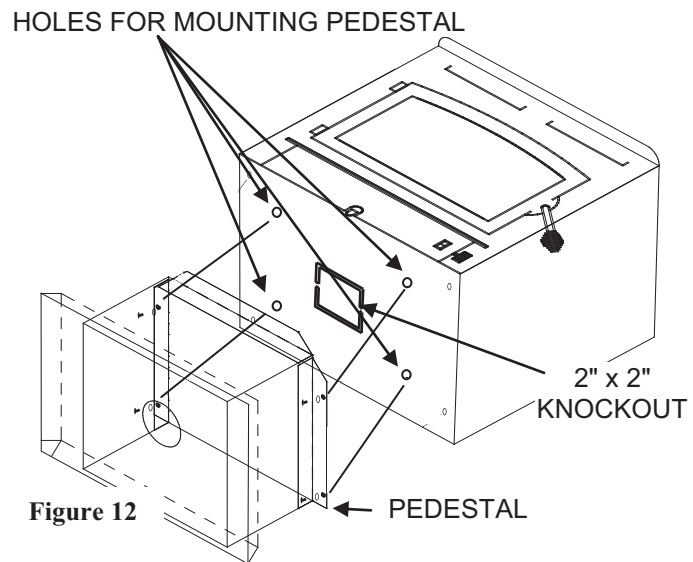

Figure 12
6. **(Pedestal Kit):** If pedestal kit is being used an outside air is required, see *Out Side Air Installation* below. Open freestanding kit and obtain stand. Place stand against bottom of heater (angle side to heater). Center stand front to back and also center stand left and right. Mark screw locations on bottom of stove through outer holes of stand mounting angles. Set stand aside and drill four 7/32" holes in heater bottom. Before attaching heater to stand, take a large flat screwdriver or pliers and remove the 2" x 2" knockout on bottom of unit. (See Figure 12). Then mount stand to bottom of heater with screws provided. (See Figure 12).
7. Obtain four (4) 3/16" self-tapping screws and secure stand to heater.